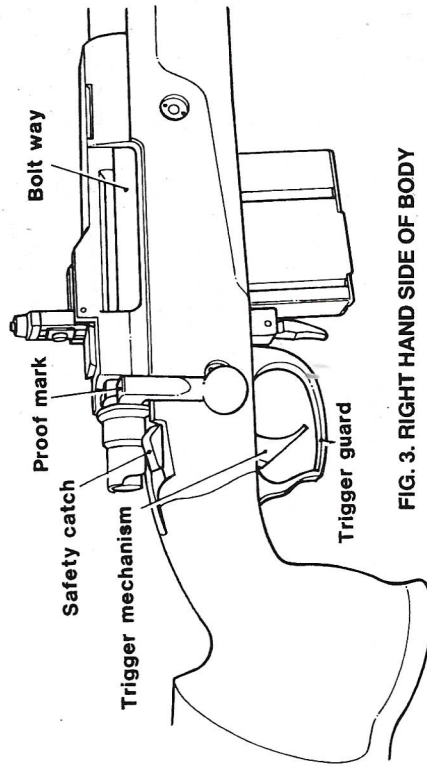

FIG. 3. RIGHT HAND SIDE OF BODY
3.4 TRIGGER MECHANISM (Figs 3 and 4) This assembly comprises a precision cast steel frame which houses the trigger, trigger spring and plunger, the sear, sear spring and safety catch.